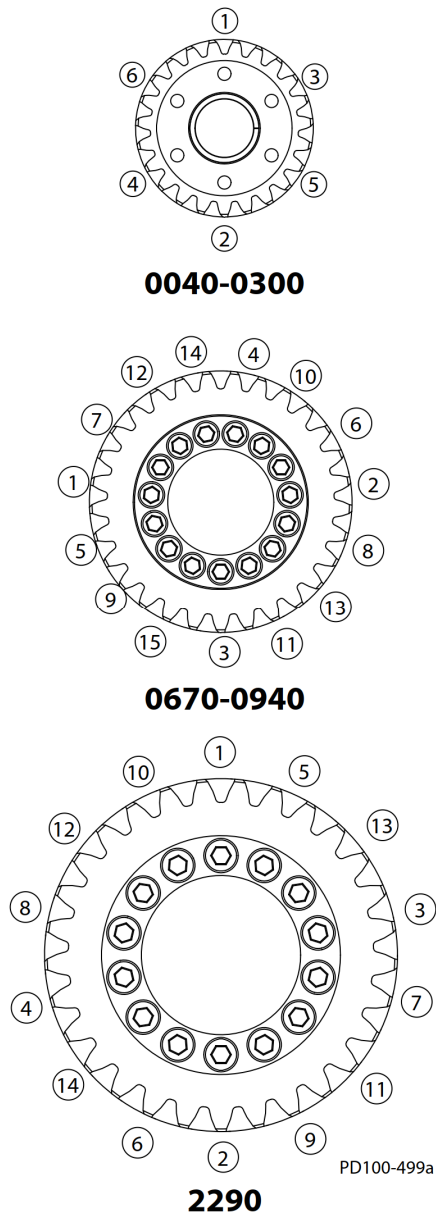

Fig. 62: Screw Tightening Patterns
5. Following a diametrically opposite sequence, tighten the screws to the value shown in Table 10 for "Step 1." Do not turn any screw more than 1/4 turn at a time, to ensure that the clamp load is applied evenly. Suggested patterns are provided in Figure 62, listed by model number.